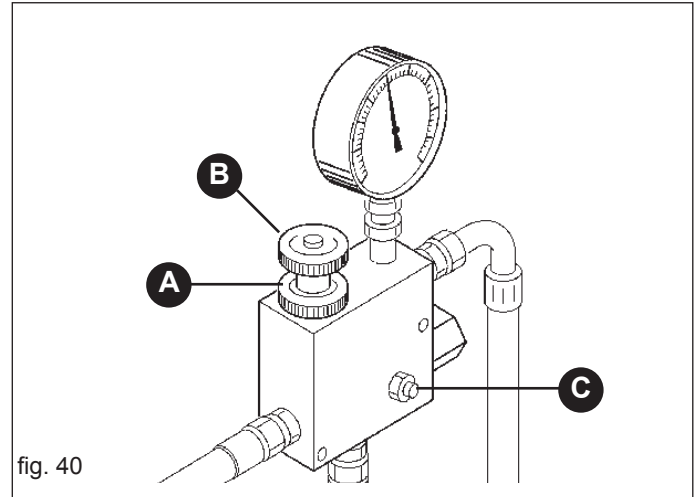

fig. 40
In tractors with a variable flow rate pump (closed hydraulic circuit), equipped with oil flow rate regulator, open the three-way regulator completely (B, Fig. 40) and, starting with a low oil flow rate, gradually open the internal regulator of the tractor circuit until the required pressure is reached as shown by the pressure gauge (C, Fig. 39).
If you wish to increase the number of revolutions of the fan for distributing heavier seeds, carefully proceed as follows (Fig. 40):
- a) loosen the handwheel (A, Fig. 40);
- b) rotate the handwheel (B, Fig. 40) clockwise or anticlockwise to reduce or increase pressure and adjust the number of revolutions of the blower accordingly.
It is strictly forbidden to touch act on the dowel (C, Fig. 40) for any reason, as this would unset the system and could lead to the motor, the pump or the fan.